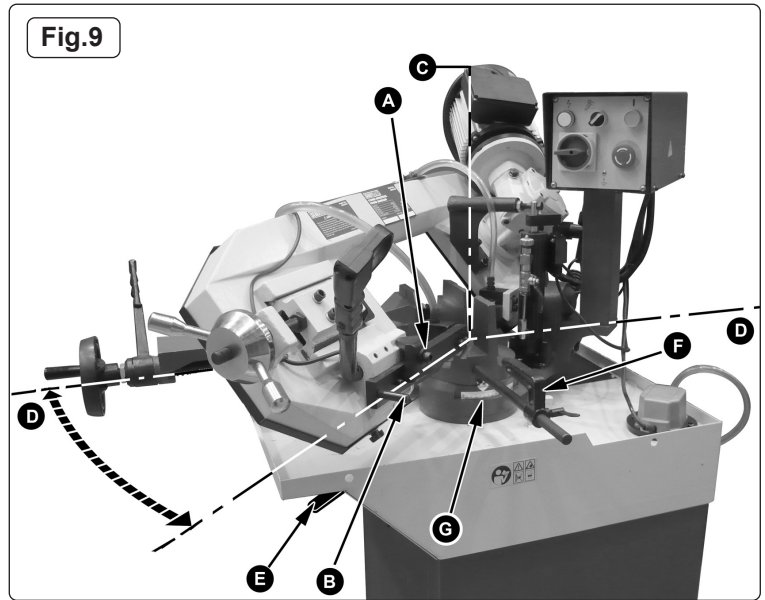

Fig.9
5.5. **CUTTING AT AN ANGLE** (See Fig.9)
In order to cut at an angle, the vice remains where it is and the whole bow assembly pivots round on the machine bed. Line 'D---D' as shown in Fig.9 above represents the line of the blade before the bow is rotated.
5.5.1. Before the bow can be rotated it must be unlocked by moving the lever on the left hand face of the machine bed 'E' towards the rear of the machine. See also 28 in Fig.4. The bow will now pivot around line 'C' and can be set at any angle between 0 and 45° using the scale mounted around the main pivot seen at 'G' above in Fig.9. Additionally the machine will cut at 60° but the blade must be lifted over an area of solid metal and lowered back into the 60° groove. The area of metal between 45° and 60° is necessary to give adequate support to the workpiece either side of the blade especially on round sections.
- 5.6.1. Unlock the main pivot by moving the lever 'E' seen in Fig.9 towards the back of the machine bed.
**5.8. ADJUSTING THE BLADE GUIDE (See Fig.9)**